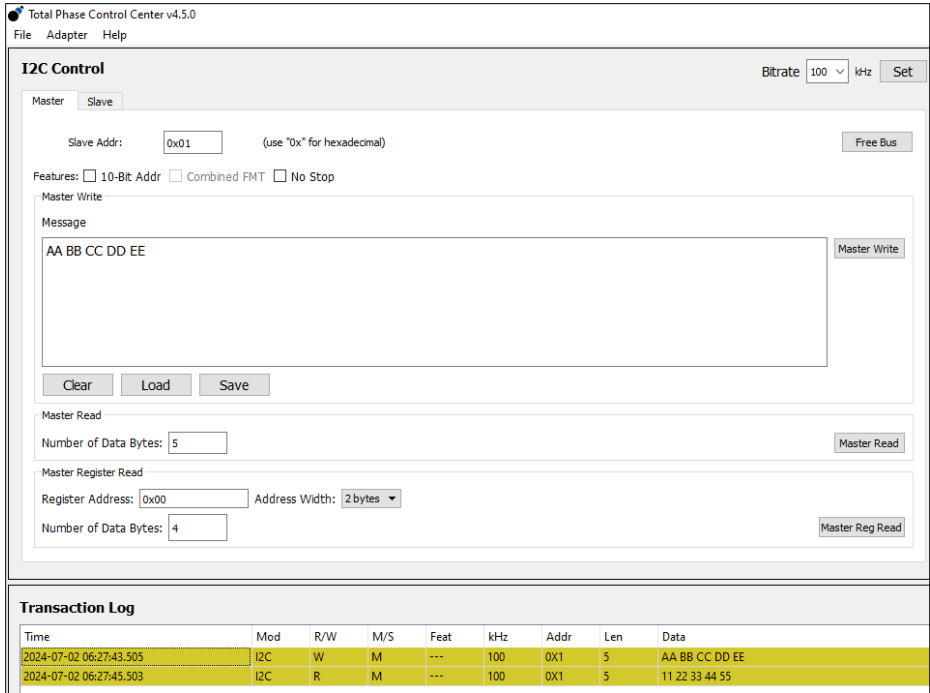
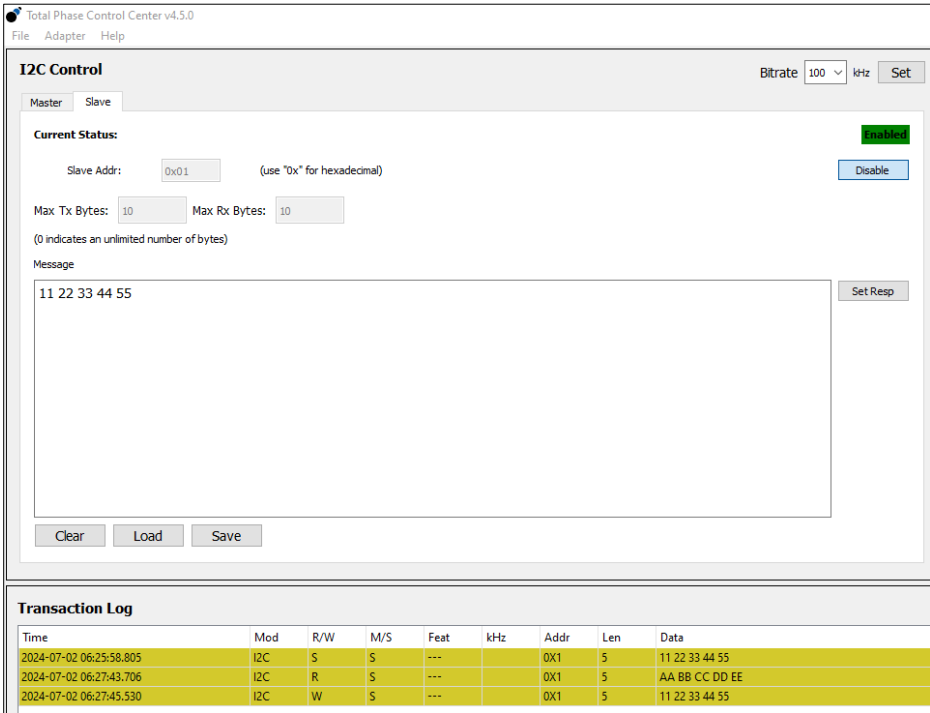

Figure 6.6. Aardvark Controller
Figure 6.7. Aardvark Target
4. Do a simple I2C transaction. Input I2C data to the **Message** field and click **Master Write**. Check I2C communication by clicking **Master Read**. The set response from the target should be visible on the Transaction Log (Figure 6.6 and Figure 6.7).